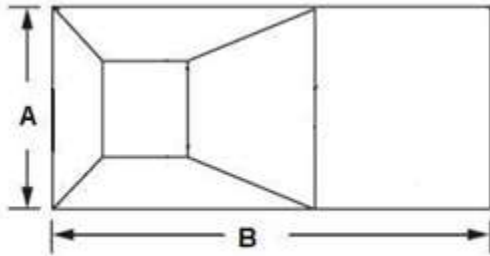
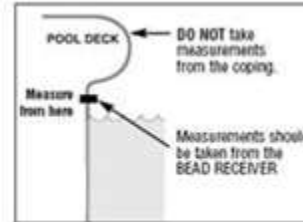

Figure 1
Figure 2
Referring to the illustration of your Rectangular Pool (Figure 1), be sure that the width (A) and the length (B) measurements are made at the bead receiver (where the liner snaps into the track), not at the edge of the coping or the edge of the pool deck. (Figure 2)